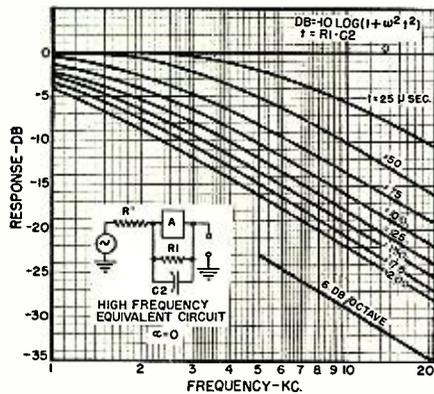

Fig. 6. De-emphasis curves when $\alpha = 0$.
Here there is a subtraction of two curves. One is the de-emphasis produced by $10 \log [1 + (f/f_s)^2]$ and the other is a rise produced by $10 \log [1 + (f/f_r)^2]$. When $R_3=0$, the second curve disappears and a simple de-emphasis curve results. (See Fig. 6).
In a great many cases simple de-emphasis, where $\alpha = 0$, is required. Fig. 6 shows actual response curves for this condition. C_2 for a particular response is found by solving equation (12).